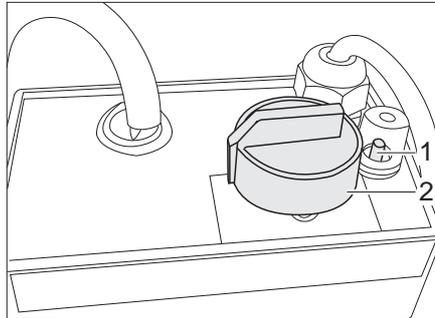

Fig. 120 Regulator for electrical floor warming unit
- Turn the control knob (Fig. 120,2) to the desired heating level.
- Turn the control knob (Fig. 120,2) to the setting "0".
If the regulator is overloaded, the overload protection is actuated. The pin (Fig. 120,1) will trip.
- Press in the pin (Fig. 120,1) at the overload protection when the regulator has cooled down.